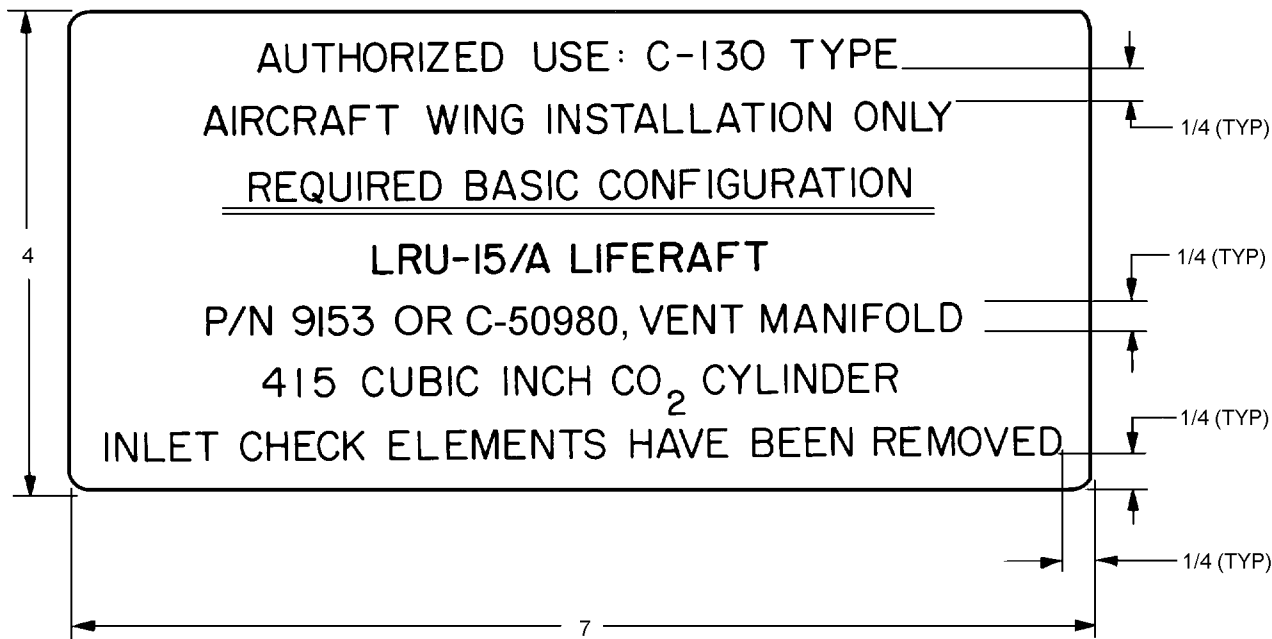

Figure 11-21. Identification Patch for C-130 Type Aircraft Wing Installation Liferaft
9. Letter applicable markings on one side of patch. Use waterproof black ink. See figure 11-21.